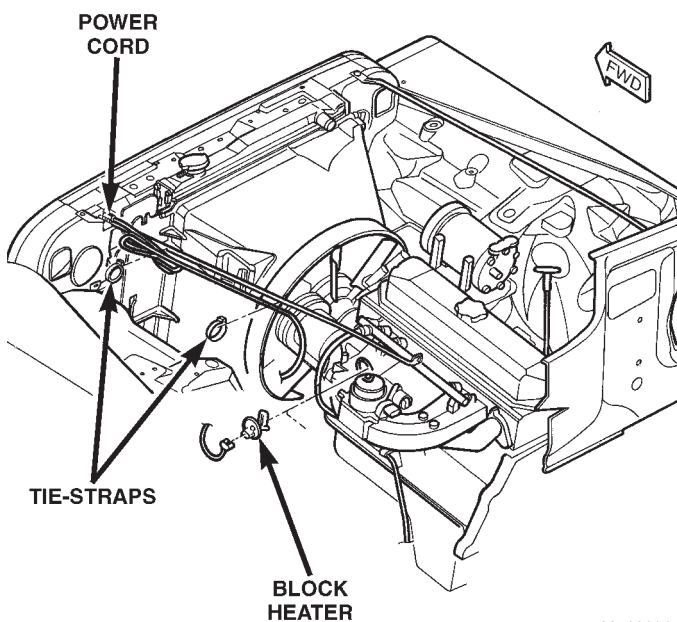
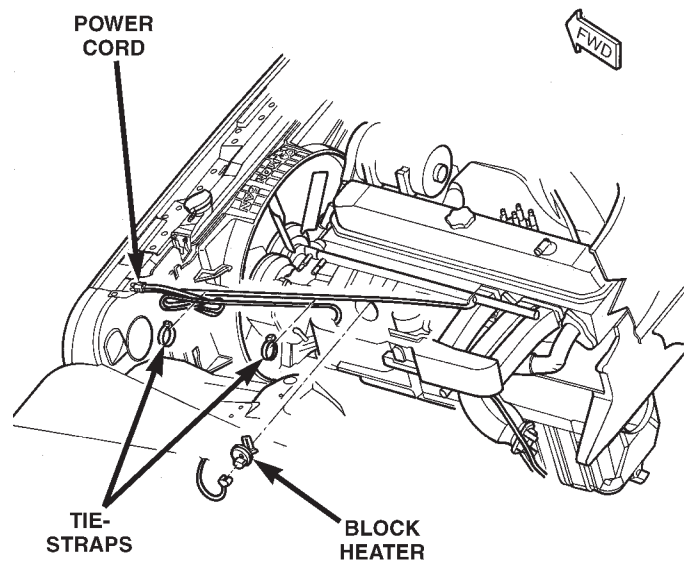

Fig. 26 Block Heater and Cord—2.5L Engine
Fig. 27 Block Heater and Cord—4.0L Engine
- (1) Drain coolant from radiator and engine cylinder block.
- (2) Unplug power cord from block heater.
- (3) Loosen screw in center of block heater (Fig. 26) or (Fig. 27).
- (4) Remove block heater from cylinder block.